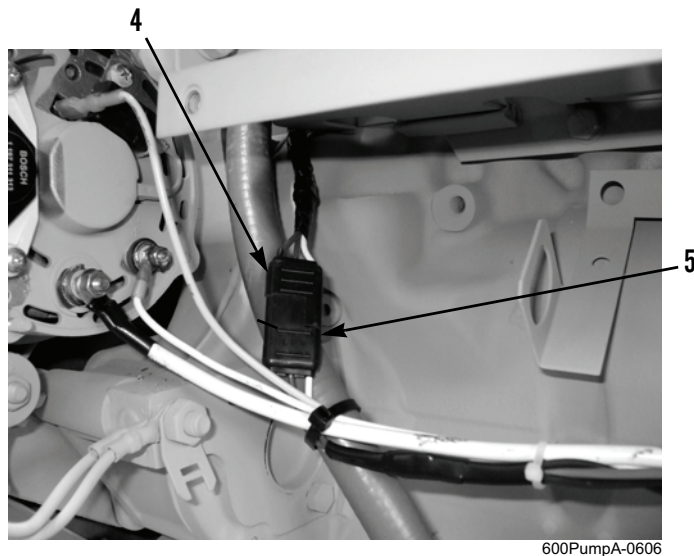

Figure 2. Shutdown Switch and Wiring Harness Connectors - Left Side of Engine.
3. Disconnect engine/control panel wiring harness connector (Figure 2, Item 5) from V-belt shutdown switch connector (Figure 2, Item 4).
4. Use a wire or tool to jump connection between two spade connectors of engine/control panel wiring harness connector (Figure 2, Item 5) and hold. Engine should shut down and cooling fan V-belt warning light on control panel should come on (WP 0005).
6. Connect engine/control panel wiring harness connector (Figure 2, Item 5) to V-belt shutdown switch connector (Figure 2, Item 4).